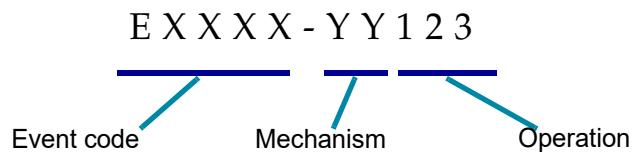

Figure 1-6-11 Two-part error code
①	The touch screen display says that processing is halted in a red banner at the top.
②	The error code is displayed. See Figure 1-6-11 and Table 6.2 for additional information on error codes.
③	In addition to a description of the error, the error message provides instructions for the operator.
④	If the audible alarm is enabled, the alarm will sound until either the Silence Alarm button or the Close button is touched. The system status lights flash in amber.
①	The touch screen display says it has an unrecoverable error in a red banner at the top.
③	A description of the error is displayed.
④	If the audible alarm is enabled, the alarm will sound until either the Silence Alarm button or the instrument is powered down. The system status lights flash in red.